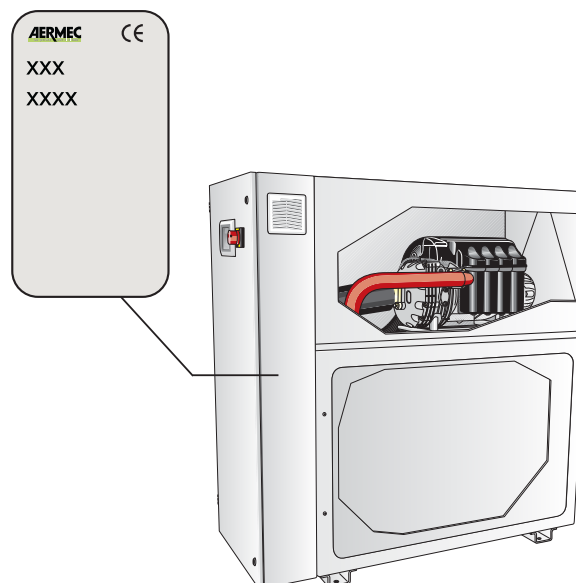

Fig.01
- Check the electrical characteristics shown on the registration plate (fig.01) before making the electrical connections. Read the instructions in the specific section about electrical connections.